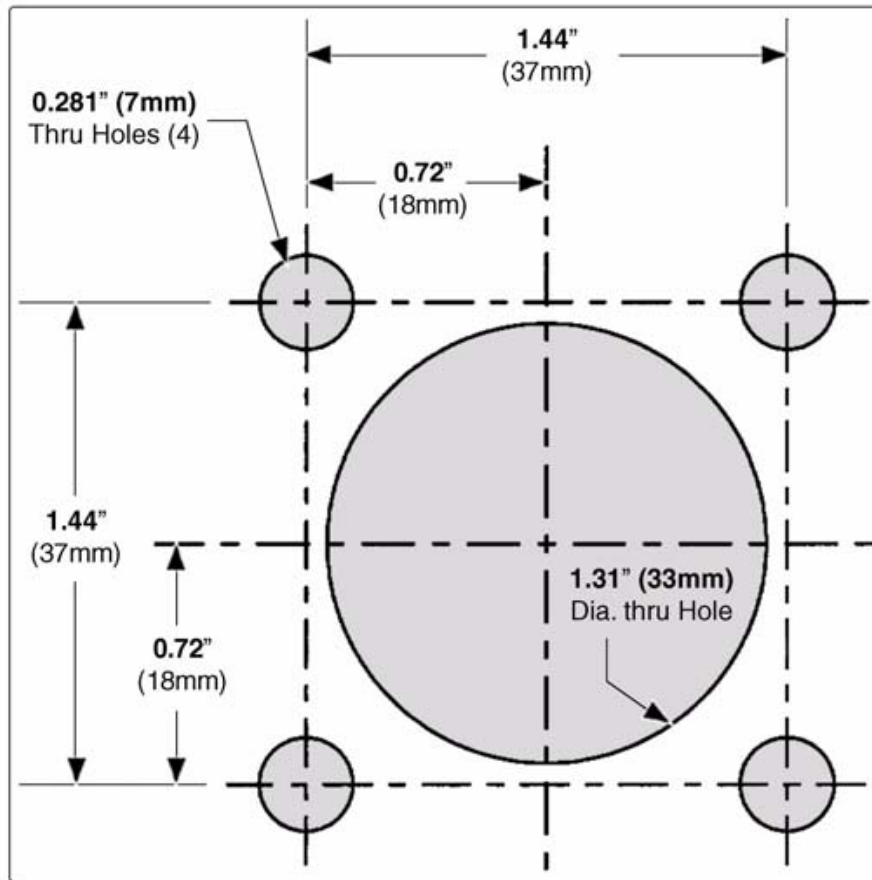

Figure 54: Top Mount Sensor Dimensions
Flange cut-out dimensions are shown in **Figure 54**. The flange gasket can also be used as a template to mark hole location.
1. Layout and drill holes in the top of the foam tank (**Figure 54**).